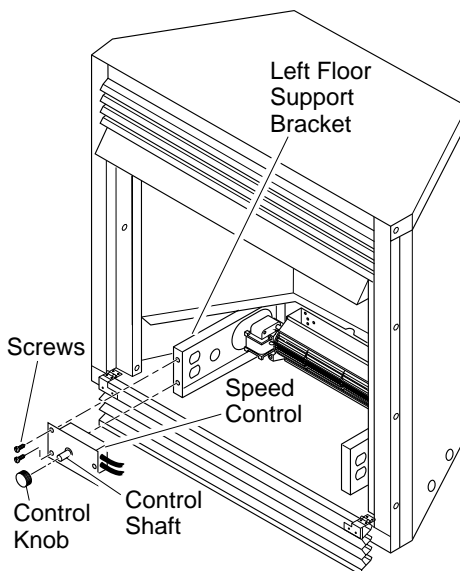

Figure 10 - Attaching Speed Control to Firebox
5. Mount the speed control on the front leg of the left floor support bracket using 2 screws provided (see Figure 10).